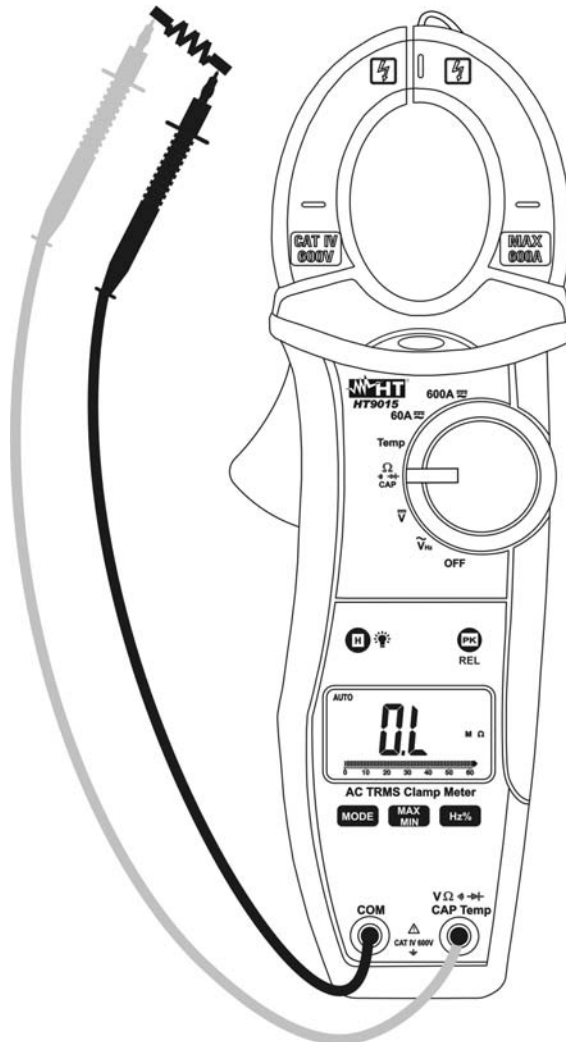

Fig. 5: Taking Resistance measurement
2. Insert the red test lead plug into $V\Omega Hz \%Temp$ jack and the black test lead plug into **COM** jack (Fig. 5)